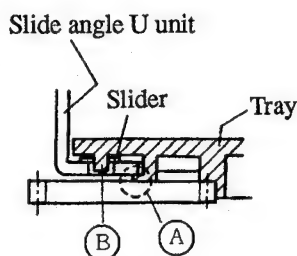

Figure 13
5. Setting the catch section A of Tray 1 so that it catches on the Slide angle U unit as shown in Figure 13, insert the protruding section B of Tray 1 into the hole of the slider. At the same time, mesh the synchronization gear and the gear section of Tray 1.